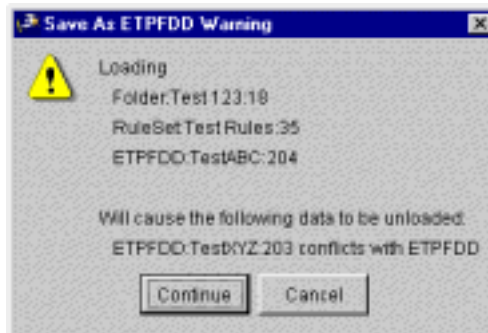

Figure 5.10 Save As ETPFDD Warning Window
- To work with the new ETPFDD, click **Yes**. The **CONFIRM** window closes and the **Save As ETPFDD Warning** window opens (Figure 5.10).